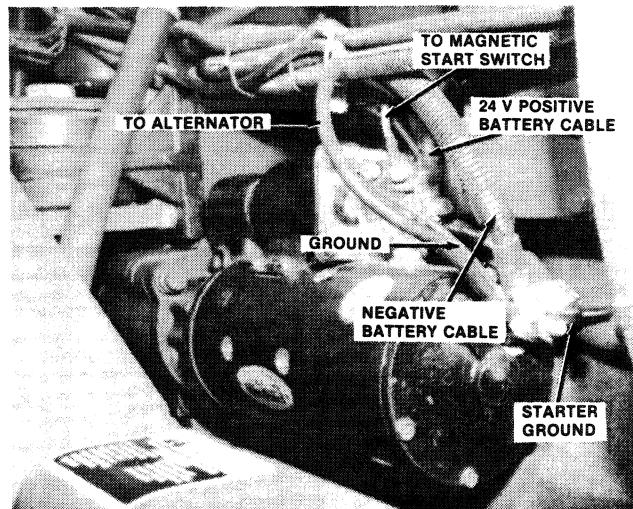

FIGURE 2-3: Starter Wiring
15. Label and remove battery cable from starter, and secure cables away from engine (Figure 2-3).